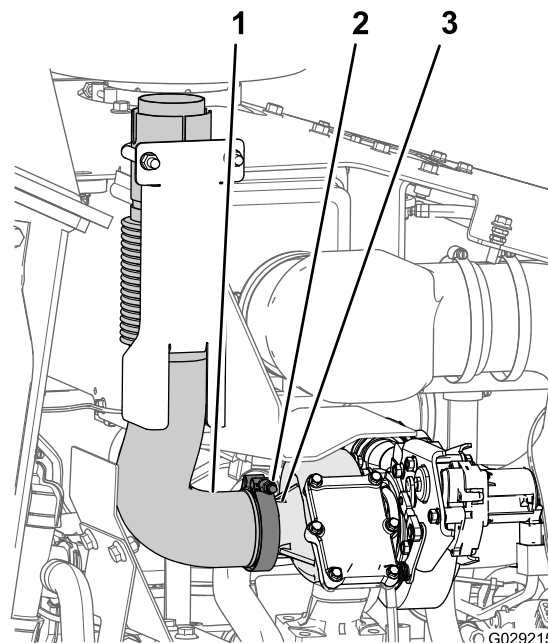

Figure 14
1. Assemble the new turbocharger-exhaust pipe to the outlet flange of the turbocharger with the flange clamp that you removed in step 5 of Removing the Muffler and Heat Shield \(page 4\) and tighten the flange nut only enough to keep the pipe aligned to the turbocharger (Figure 14).